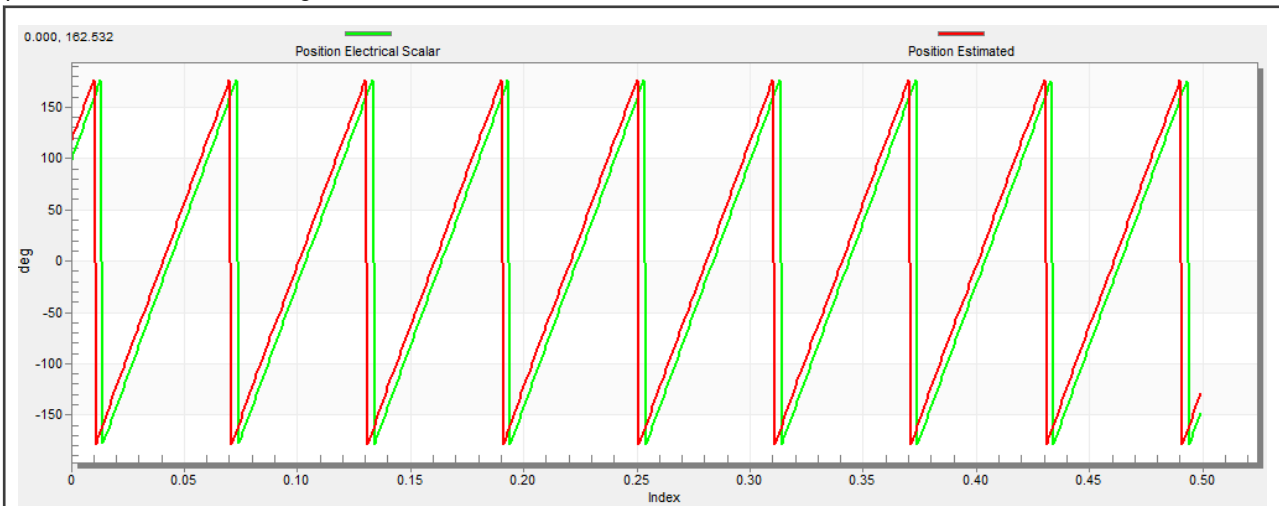

Figure 27. Generated and estimated positions
6. Select the “Position” recorder to check the observer functionality. The difference between the “Position Electrical Scalar” and the “Position Estimated” should be minimal (see Figure 27) for the Back-EMF position and speed observer to work properly. The position difference depends on the motor load. The higher the load, the bigger the difference between the positions due to the load angle.